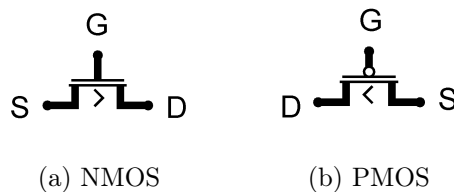

Figure 5.0.1: Wiring convention for FETs in *LogiSim*.
- Pay attention to the wiring conventions for NMOS and PMOS transistors in *LogiSim*, as shown in Figure 5.0.1. Note the direction of the caret ( $\wedge$ ) and do not confuse source and drain.